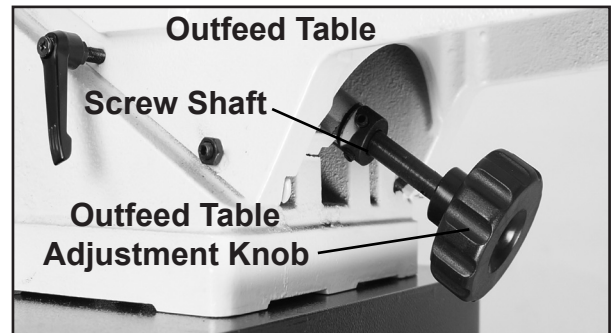

FIG. 14A
2. Insert the Outfeed Table Adjustment Knob onto the square receiver of the Table Adjustment Screw Shaft located under the Outfeed Table. Secure using the Allen Cap Screw M6 x 12mm and 6mm Flat Washer. FIG. 14A.